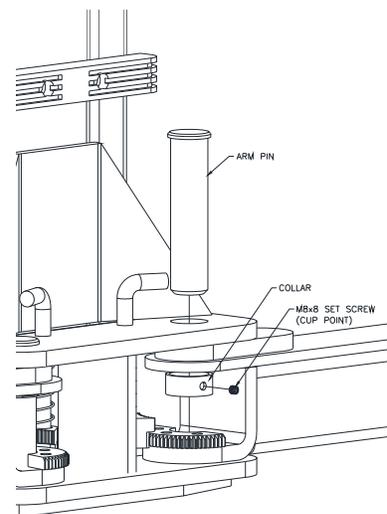

Fig. 11 – Arm Install
- 32) Lubricate the arm pin or carriage arm pin hole with “anti-seize” and install the arms as shown in **Fig 11**. Once the set screw is finger tight against the arm pin, tighten 1/4 turn with allen wrench.